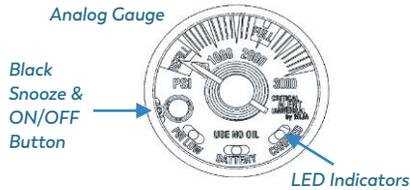

Figure 1: The Critical Alert Universal
1. The Critical Alert Universal from MADA is completely assembled and ready to be installed onto an oxygen regulator. See **Figure 1** below:
2. The Critical Alert Universal Assembly from **Figure 1** can be installed onto an oxygen regulator just as a standard pressure gauge would be. The Critical Alert Universal will fit most regulators using an 1/8" NPT fitting.
3. The Critical Alert Universal is now ready for use. The Critical Alert Universal needs to be switched on. The switch can be found on the lens of the housing as shown in **Figure 1**. Press the black button and release.
5. The **red** LED will flash and an audible alarm will sound when the oxygen level gets to **500 psi** and lower. The black snooze button, see **Figure 1**, can be pressed (press and release) to silence the alarm while a new oxygen cylinder is sourced. See **Table 1** for the estimated minutes of available oxygen.
- Power the Critical Alert Universal down. (Press and hold the black power button, shown in **Figure 1**, until all LEDs glow and alarm sounds)